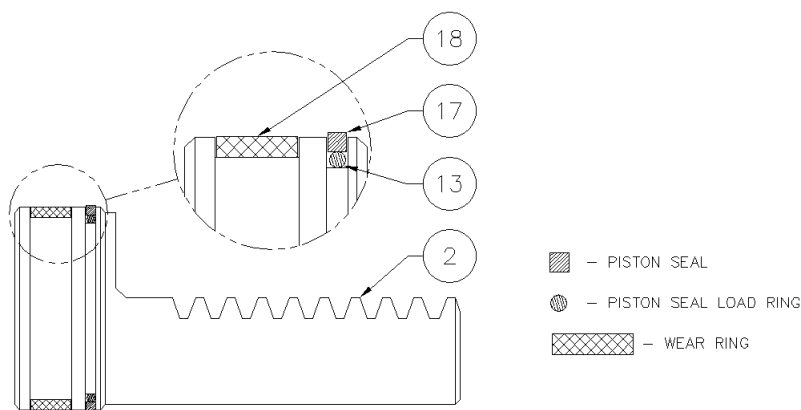

Figure 9.
1. Install the piston seal load ring (13) (Figure 9) in the small groove on the head of the actuator rack (2). Place the "square" piston seal (17) over the load ring (13) in the same small groove (a small "blunt" flathead screwdriver may be used, taking care not to scratch or damage the seal). Install the wear ring (18) in the large groove on the head of the rack. Using a ring compressor, firmly seat the rings on the rack before setting it aside, this will help to reverse the effects of any stretching of the rings that occurred during installation. Repeat this procedure for the other rack.